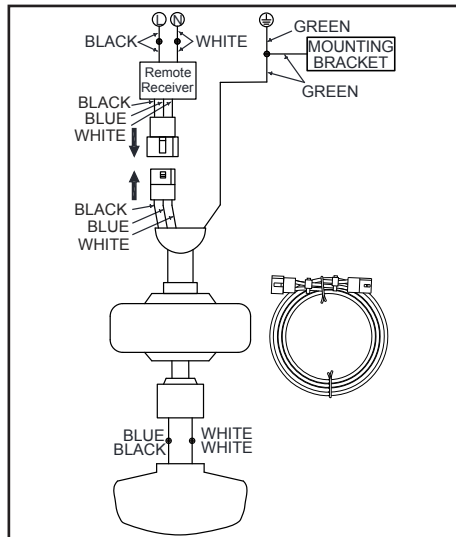

Figure 11
1. If using the 6 in. ball/downrod assembly provided, wire the receiver to the fan wires by connecting the molded adaptor plug from this receiver with the molded adaptor of the fan motor assembly together. (Figure 11)